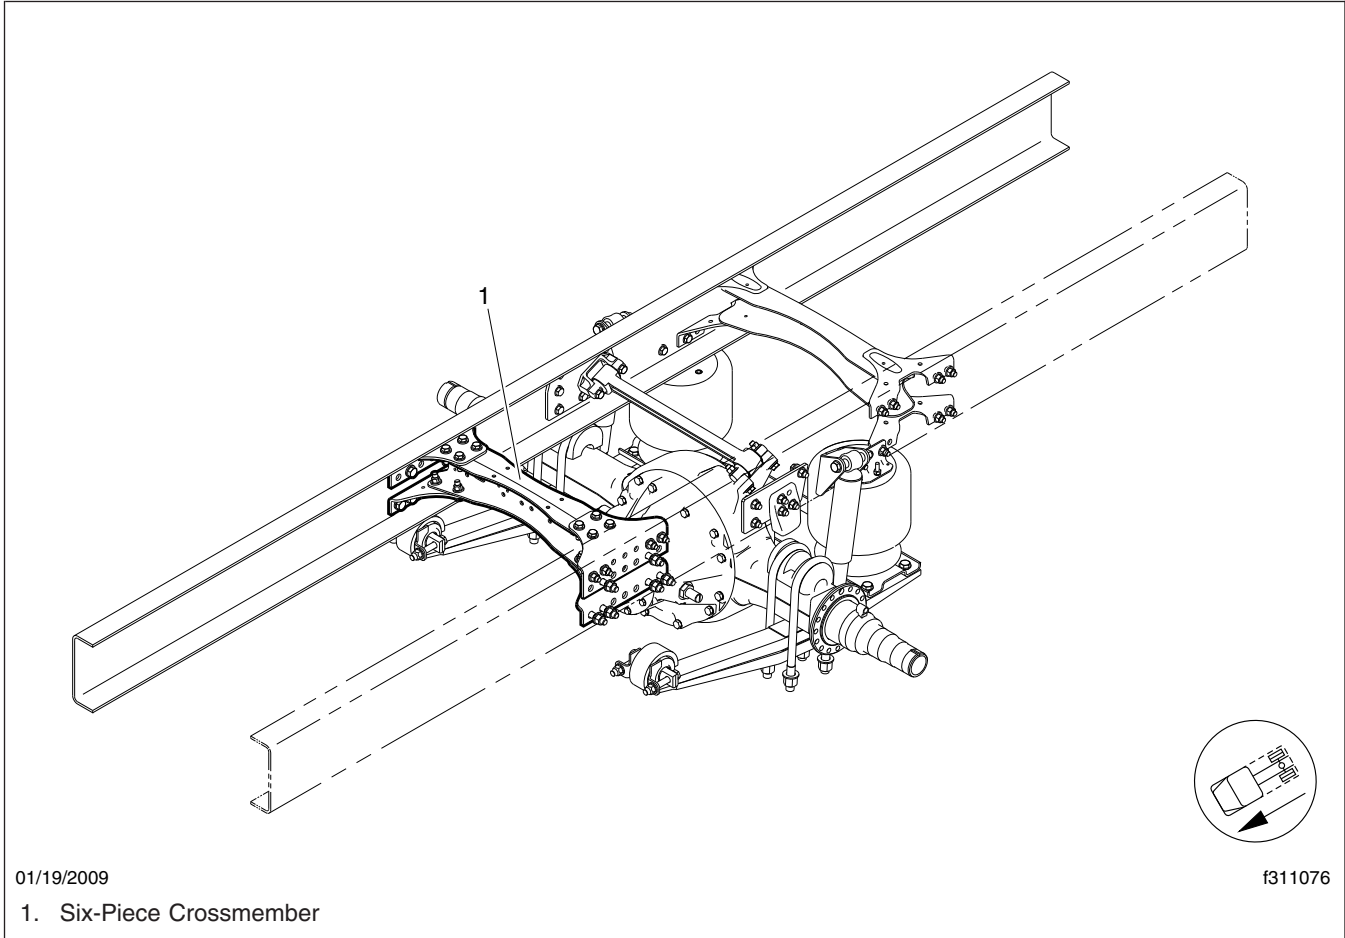

Fig. 1, Single Axle Installation
- AirLiner Single Axle Suspension Six-Piece Main Crossmember, shown in Fig. 1.